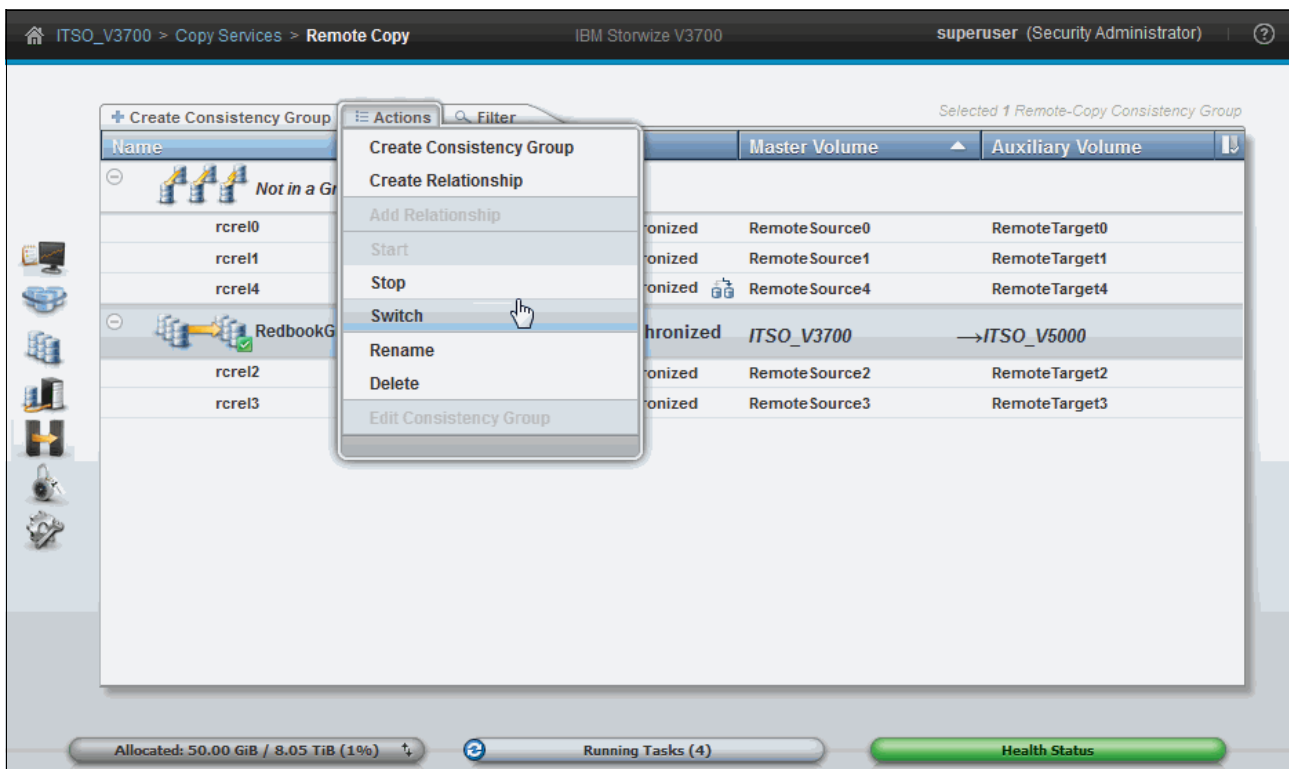

Figure 10-140 Switch the copy direction of a consistency group
1. Click **Switch** from the **Actions** menu, as shown in Figure 10-140.